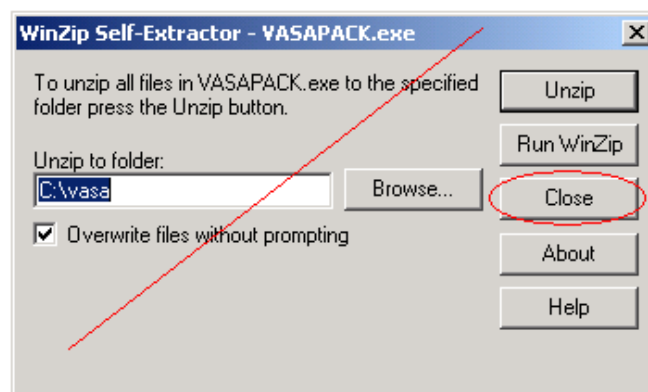

Figure 10: Click on the Close button to exit VASAPACK
Step 10: Click once on the Close button as shown in figure 10.